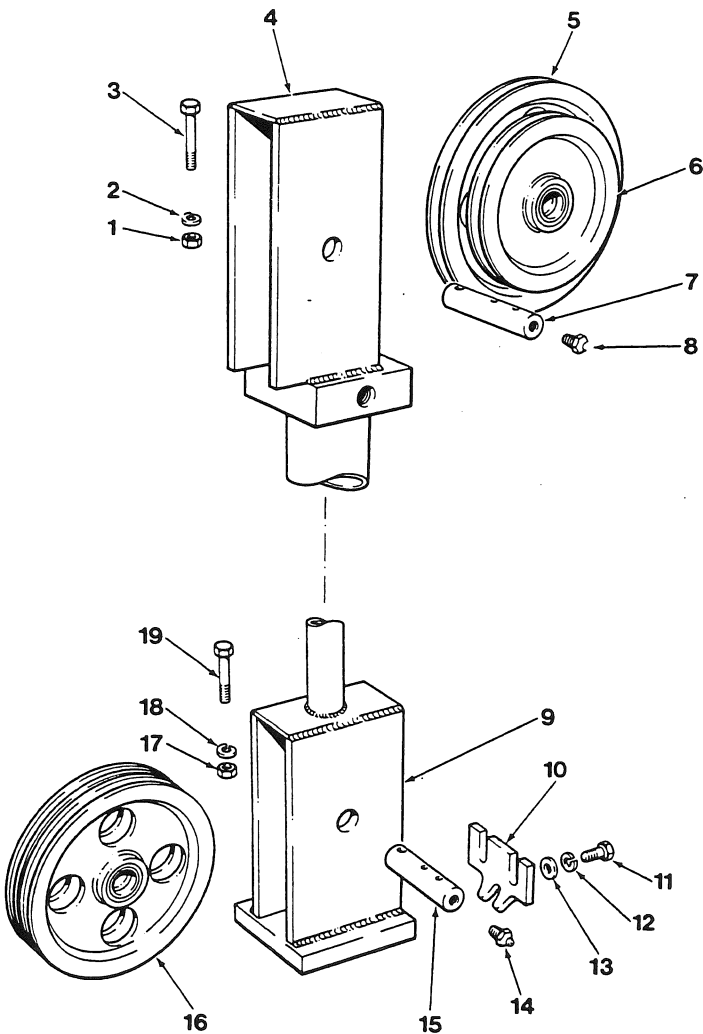

Figure 22
- c. Remove the hexagon head bolts (3 and 19, Fig. 22), nuts (1 and 17, Fig. 22) and lockwashers (2 and 18, Fig. 22) retaining the sheave pins (7 and 15, Fig. 22). Remove the sheave pins and sheaves (5, 6 and 16, Fig. 22). Remove the two hexagon head capscrews (11, Fig. 22), lockwashers (12, Fig. 22) and flatwashers (13, Fig. 22), and remove the ice scraper (10, Fig. 22).
KEY TO FIG. 22
- d. Install the sheaves (5, 6 and 16, Fig. 22) and sheave pins (7 and 15, Fig. 22). Retain the sheave pins with the hexagon head bolts (3 and 19, Fig. 22), nuts (1 and 17, Fig. 22) and lockwashers (2 and 18, Fig. 22). Install the ice scraper (10, Fig. 22), and retain with the two hexagon head capscrews (11, Fig. 22), lockwashers (12, Fig. 22) and flatwashers (13, Fig. 22).